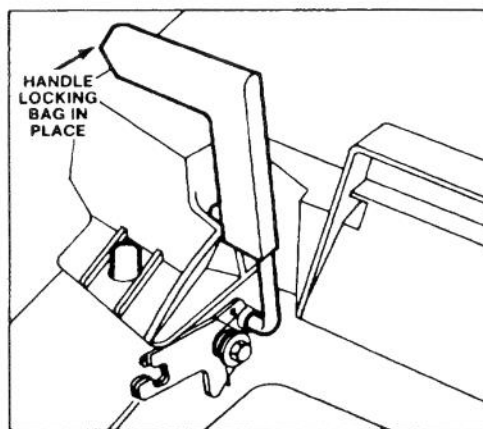

Figure 12
4. Pull chute door handle forward until pin clears bag catch and move handle rearward until pin locks in bag notch (Fig. 12). Chute door in mower housing is now open. It may be necessary to push down on top right of bag door to release handle locking pin from catch.